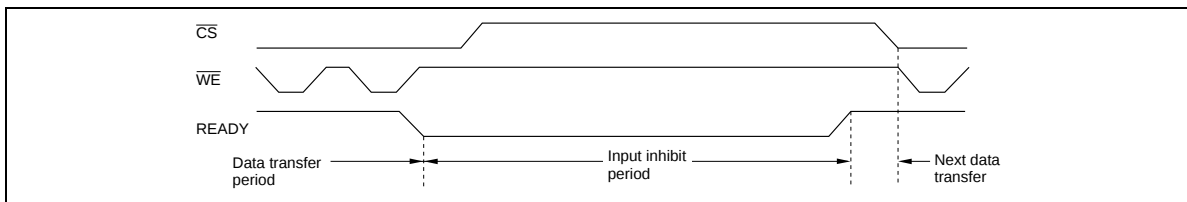

Figure 14 READY Output Timing (When It Is Always Available)
- READY is always available (Figure 14).